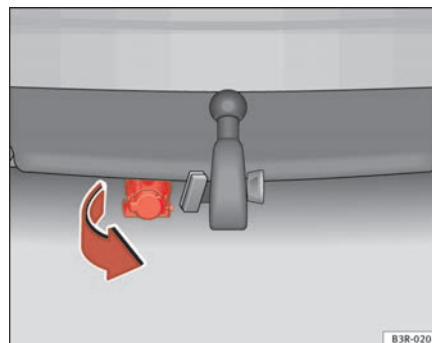

Fig. 155 Rear bumper: Pulling down the connecting socket
- To plug in the electrical connection for the trailer, pull down the socket below the bumper ⇒ page 192, fig. 155.